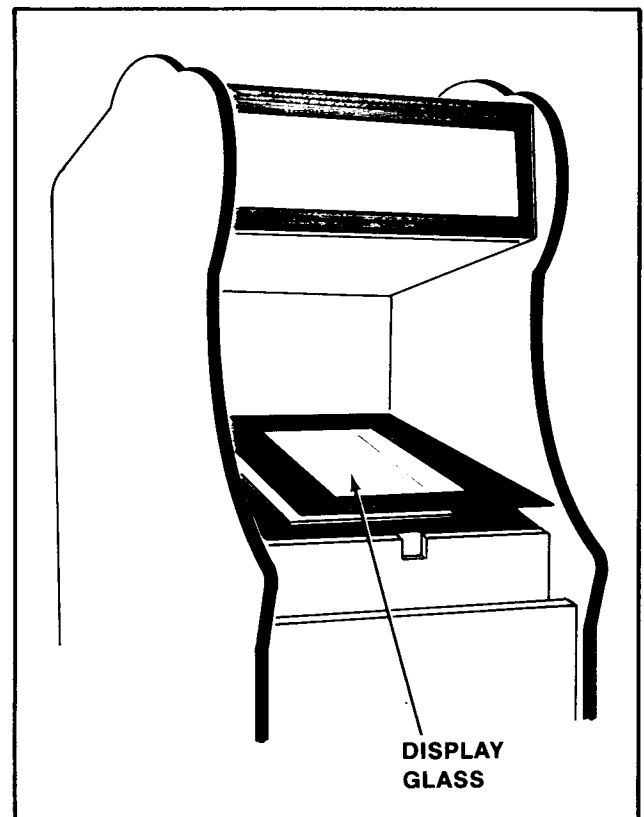

Figure 4-5 Removing the Main Display Glass & T.V. Bezel — Upright
1. UPRIGHT MODEL: See Figure 4-5.